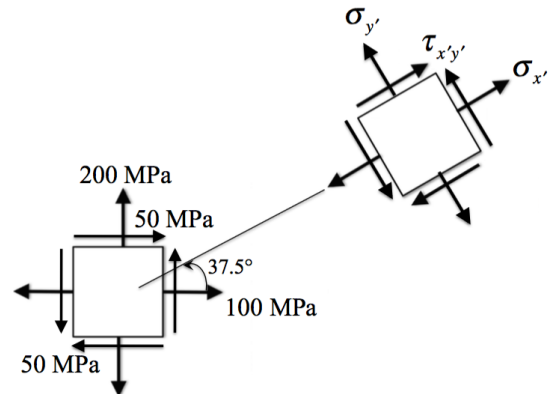

Figure 2
2. An element of a thin plate is subjected to stresses as shown in Figure 2. Find the stress state, i.e.,  $\sigma_{x'}$ ,  $\sigma_{y'}$  and  $\tau_{x'y'}$  on the element rotated by 37.5 degrees (counterclockwise) as shown. (Stress directions in the rotated element are indicative only.) (12)